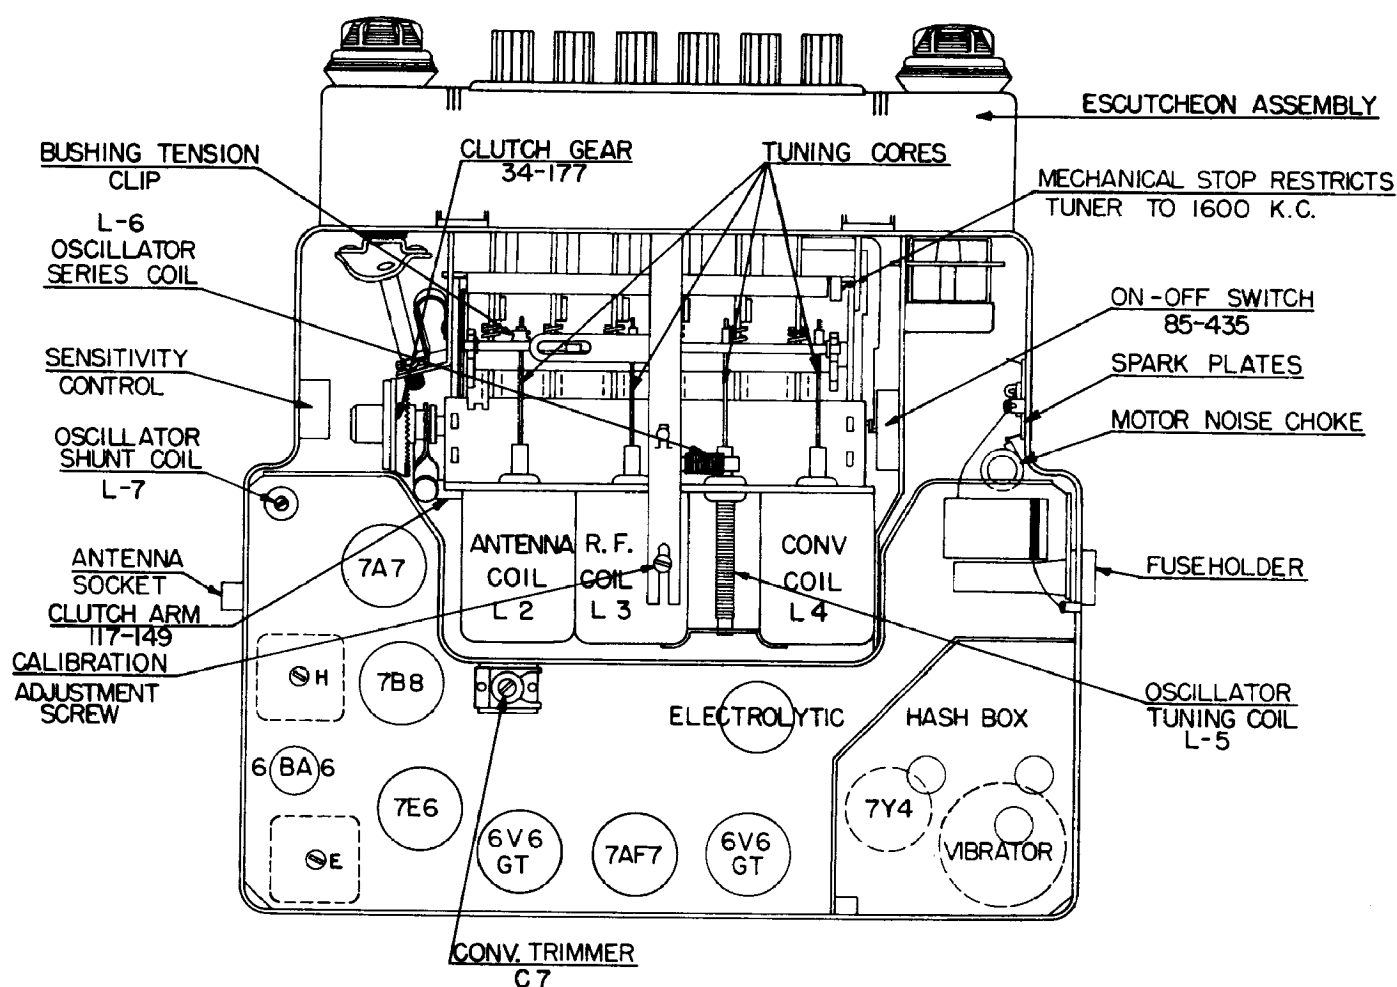
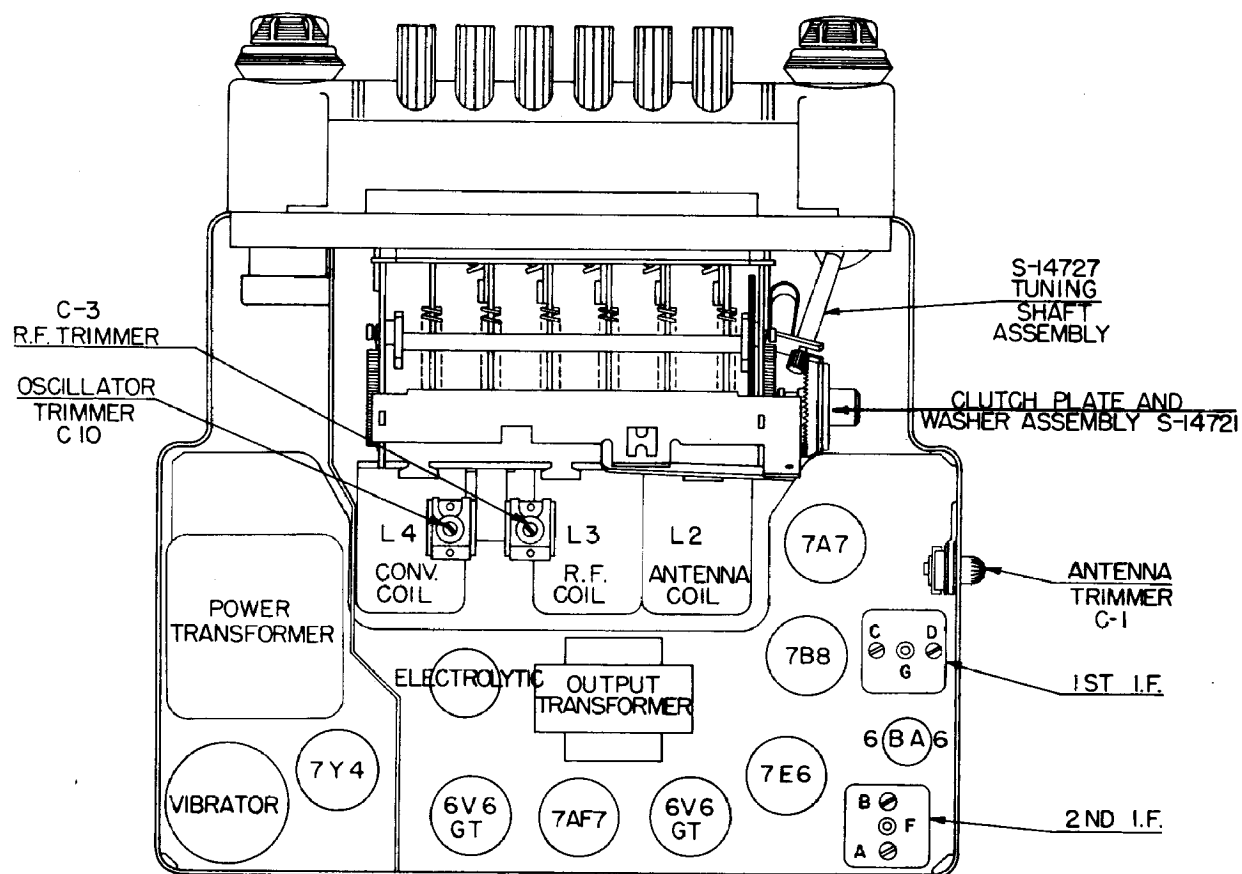

Fig. 7. Top View
Fig. 8. Bottom View
4. Adjust I.F. trimmers A, B, C, and D in order named for maximum output. (Fig. 8.) Some units have I.F. transformers that are slug tuned. In this case adjust I.F. slugs E, F, G, and H in order named. Repeat the operation to assure accurate alignment. (Figs. 7 and 8.)
4. Adjust oscillator trimmer C-10 (Fig. 8), for maximum response.
7. Adjust converter trimmer C-7, R.F. trimmer C3 and antenna trimmer C-1 (Fig. 8) for maximum response (Figs. 7 and 8).
8. If dial calibration is off after making above adjustments, a correction can be made by tuning eccentric screw at fulcrum of dial pointer. (Fig. 7.)
5. Adjust the oscillator trimmer C-10 (Fig. 8) at 1675 Kc.
6. Adjust the converter trimmer C-7, R.F. trimmer C3, and antenna trimmer C-1 (Figs. 7 and 8) for maximum output reading.
9. Adjust the oscillator core L-5 (Fig. 7) to scale at 1300 Kc.
10. Adjust the antenna core L-2, R.F. core L3, and converter core L-4 (Fig. 7) for maximum output reading.
12. "Rock in" shunt oscillator coil L-7 (Fig. 7) for maximum output reading. This should be done only as a last resort. This is the same as rocking in the padder condenser on a gang condenser receiver.